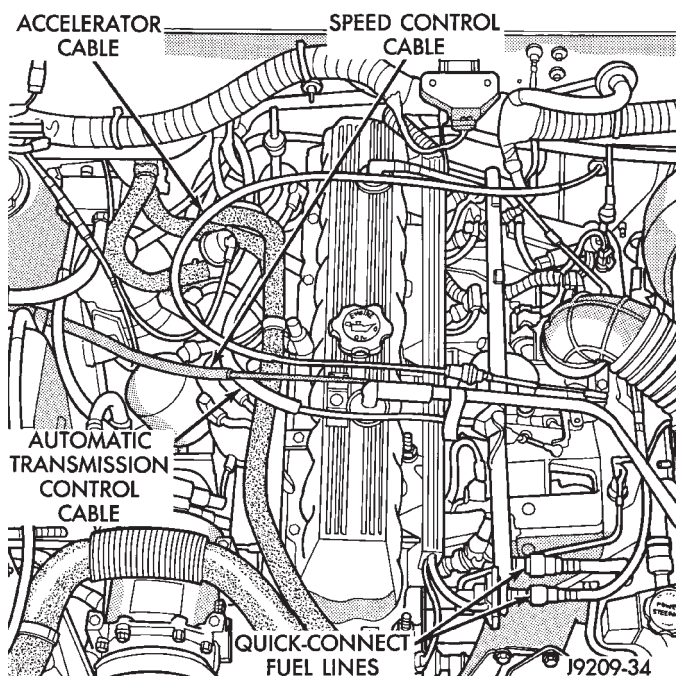
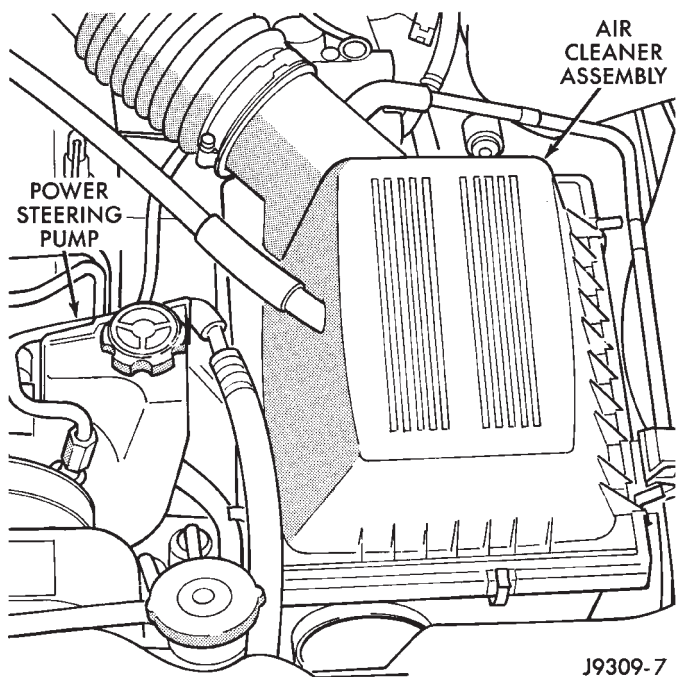

Fig. 26 Accelerator Cable, Vehicle Speed Control Cable, Automatic Transmission Control Cable & Quick-Connect Fuel Lines
Fig. 27 Air Cleaner Assembly & Power Steering Pump
- (13) Disconnect the throttle linkages (Fig. 26).
- (14) Disconnect the vehicle speed control cable (if equipped) (Fig. 26).
- (15) Disconnect the line pressure cable (if equipped with automatic transmission).
- (16) Disconnect injection system wire harness connector at each injector. Mark the wires for proper installation.
- (17) Disconnect the distributor electrical connection and the oil pressure switch connector.
- (18) Disconnect the quick-connect fuel lines at the fuel rail and return line by squeezing the two retaining tabs against the fuel tube (Fig. 26). Pull the fuel tube and retainer from the quick-connect fitting (refer to Group 14, Fuel System for the proper procedure).
- (19) Remove the fuel line bracket from the intake manifold.
- (20) Remove the air cleaner assembly (Fig. 27).
- (21) Remove the power brake vacuum check valve from the booster, if equipped.
- (22) **Vehicles with Power Steering (Fig. 27):**